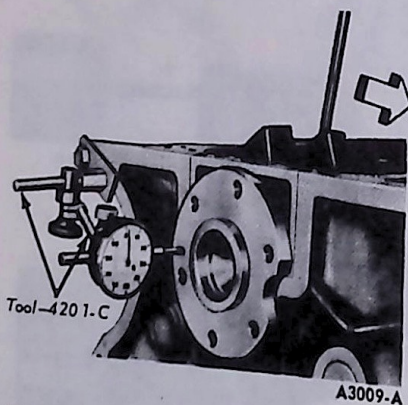

FIG. 9 Checking Crankshaft End Play
2. Install a dial indicator so that the contact point rests against the crankshaft flange and the indicator axis is parallel to the crankshaft axis (Fig. 9).